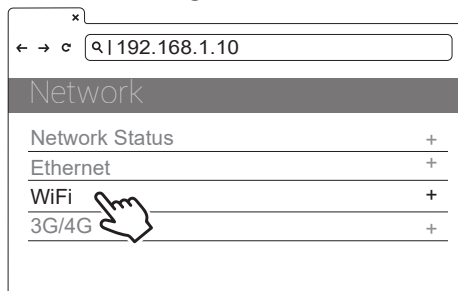

Figure 30. Network Select
2) Select Wi-Fi Module. See Figure 30.